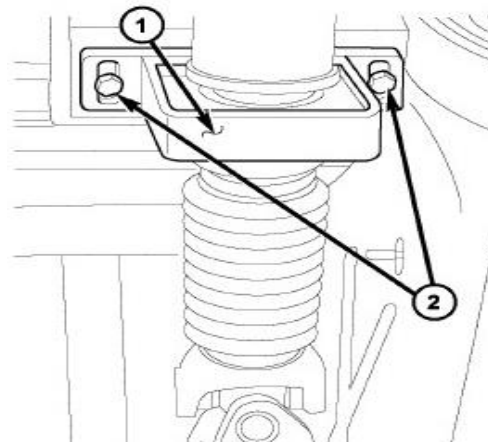

Figure 10 – Center Bearing
91. Connect the 16-pin connector at the strut tower (Figure 10).
26. If equipped with a center bearing (1) mark an outline of the center bearing (1) on the center bearing bracket for installation reference. Then support propeller shaft and remove mounting bolts (2) (Figure 10).